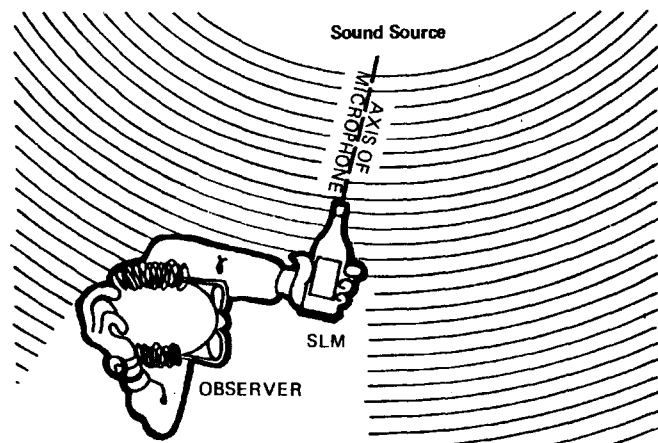

Figure 2-5. Orientation of hand-held sound-level meter with "perpendicular" microphone for best results and preferred position of observer.
2.3.4 Position, Using Perpendicular Response Microphone. Figure 2-5.